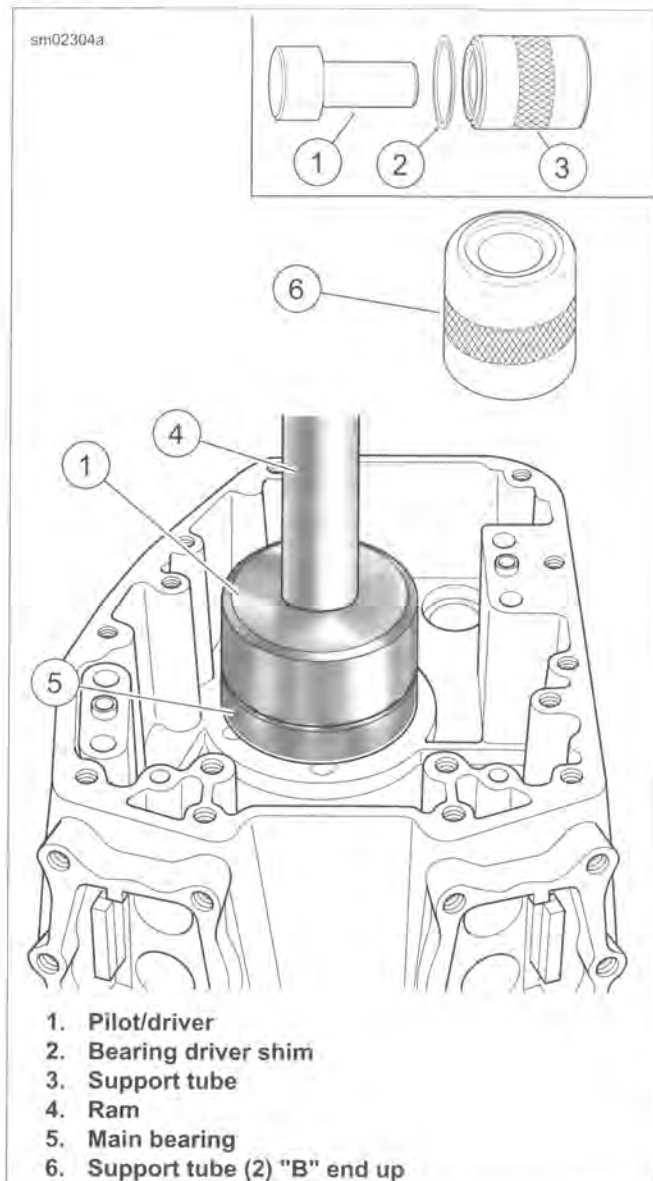

Figure 3-122. Right Main Bearing Installation
1. See Figure 3-122. Obtain CRANKCASE BEARING REMOVER/INSTALLER (Part No. B-45655), CRANKSHAFT BEARING DRIVER SHIM (Part No. HD-42720-4) and REMOVER/INSTALLER SUPPORT TUBE (Part No. HD-42720-5).
2. Spread a thin film of clean engine oil on OD of **new** bearing (5).
3. Place support tube (3) on press table with the "B" end is up. The ends of the support tube are stamped "A" and "B" to verify proper orientation.
4. Place CRANKSHAFT BEARING DRIVER SHIM (Part No. HD-42720-4) (2) on support tube (3).
7. Slide remover/installer (1) through bearing into support tube.
8. Center remover/installer under ram (4) of press. Apply pressure until resistance is felt and bearing is bottomed on the support tube.